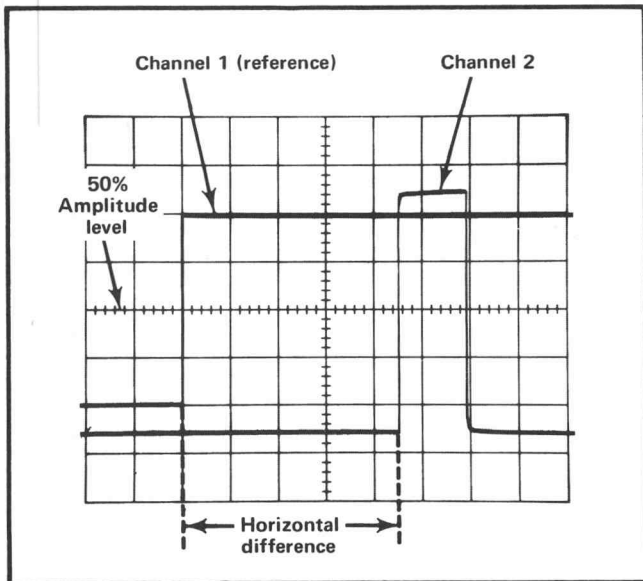

Fig. 2-15. Measuring time difference between two pulses.
11. Measure the horizontal difference between the Channel 1 waveform and the Channel 2 waveform (see Fig. 2-15).
Example. Assume that the TIME/DIV switch is set to $50\ \mu\text{s}$, the X10 MAG switch is pulled out, and the horizontal difference between waveforms is 4.5 divisions (see Fig. 2-15).